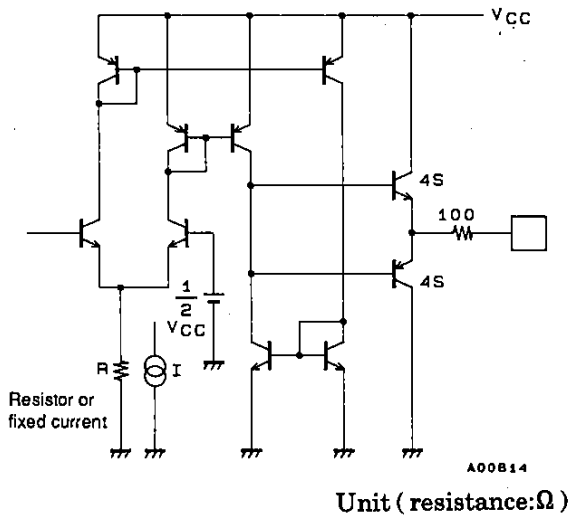

Figure 1
- The peripheral circuit for the pins described below is shown in figure 1. Either a resistor or a fixed current supply is connected to the lower side (the side away from the pin) of the differential amplifier.